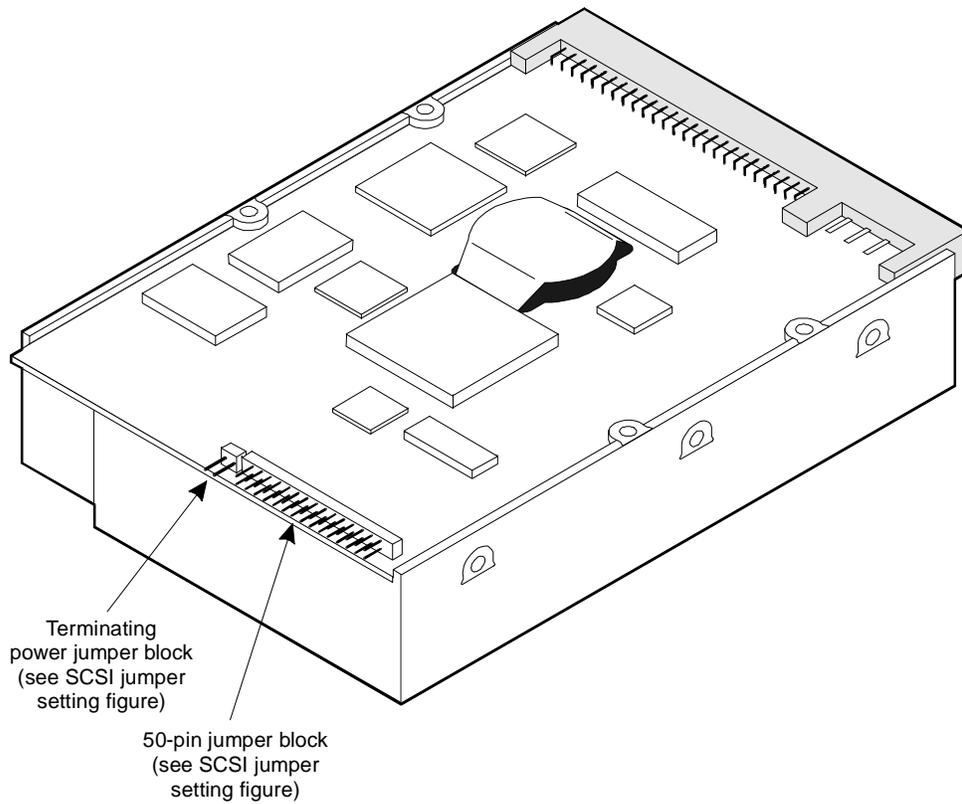
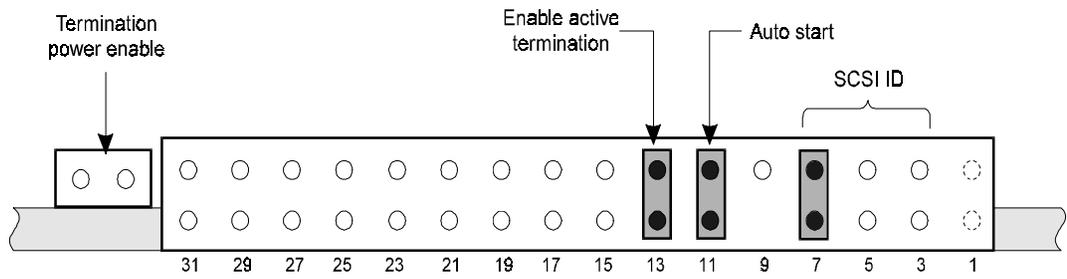

Figure 10-7. 2.0-Gbyte SCSI Hard Disk Drive
Figure 10-9. Jumper Settings for First SCSI 2-Gbyte Disk Installed, SCSI ID 1
- **2-Gbyte SCSI disk drive** — Refer to Figure 10-7 through Figure 10-9 for the jumper settings.
1. Align the connector on the SCSI cable with the gold pins on the cable receptacle of the hard drive and push the connector into the cable receptacle. See the figure for your disk drive type (for example Figure 10-7 for the 2-Gbyte SCSI disk) for the location of the connector pins).